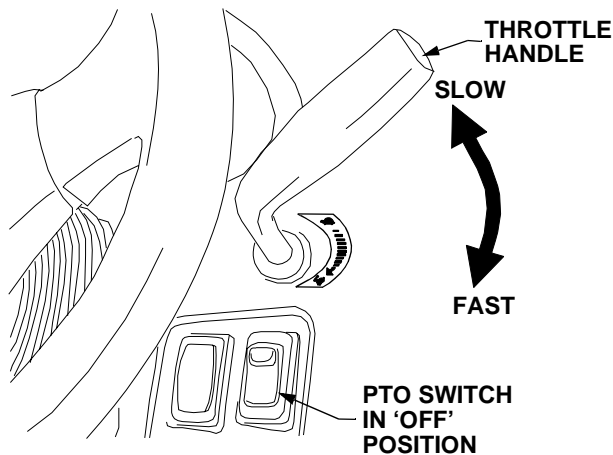

Figure 15
- Move the throttle handle to midway between the “SLOW” and “FAST” position. Refer to Figure 15.
- Fully depress the brake pedal to bring the tractor to a complete stop. Push downward on the parking brake lever and release the pedal to engage the parking brake. See Figure 15.